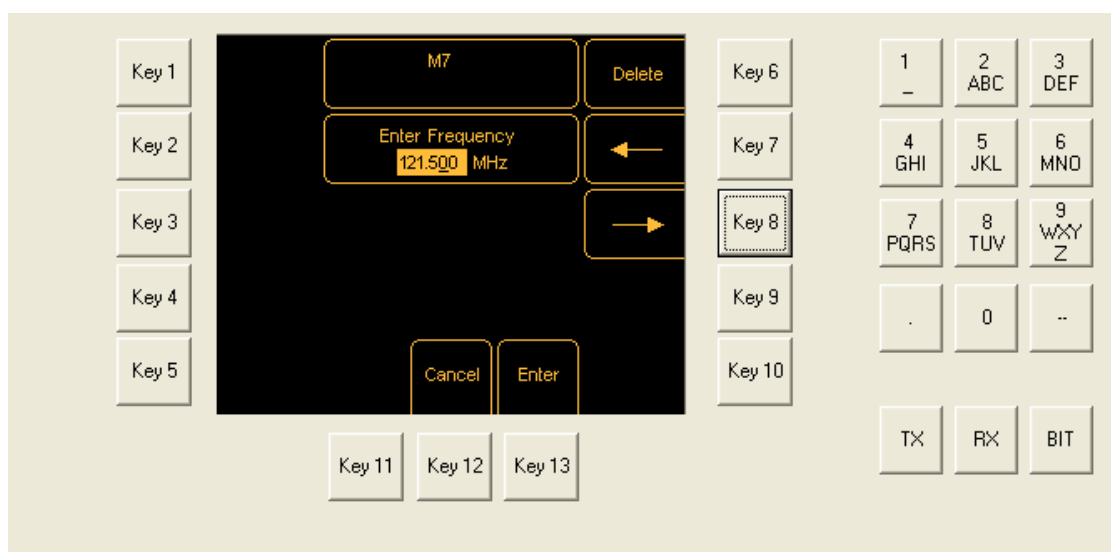
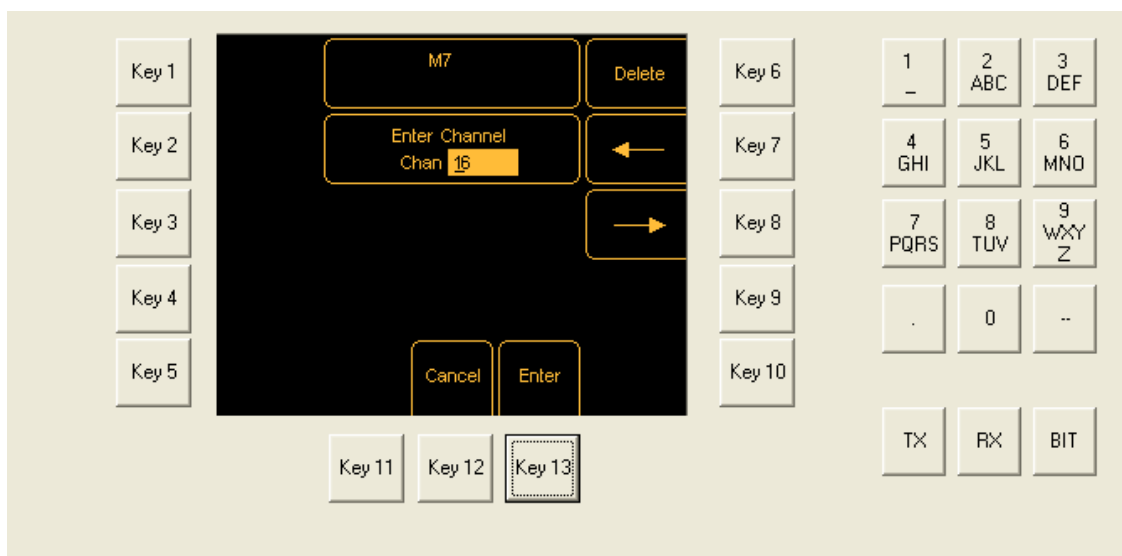

Fig 3-19 Enter Frequency Screen
Fig 3-20 Enter Channel Screen (Maritime Mode Only)
- (4) If a profile applicable to Maritime mode is selected the Enter Channel screen (Fig 3-20) is displayed; for all other modes the Enter Frequency screen (Fig 3-19) is displayed. See the Notes below and then, at the Enter Frequency screen (Fig 3-19) enter the required frequency using the alphanumeric keys, or if Maritime mode is selected enter the required channel at the Enter Channel screen (Fig 3-20).
- (5) When the required frequency or channel number has been keyed in, press Key 13 to enter the information. If a valid frequency (or channel in Maritime mode) has been entered, the Home screen is displayed showing the new Waveform Profile and/or operating frequency. The radio is now ready for use.